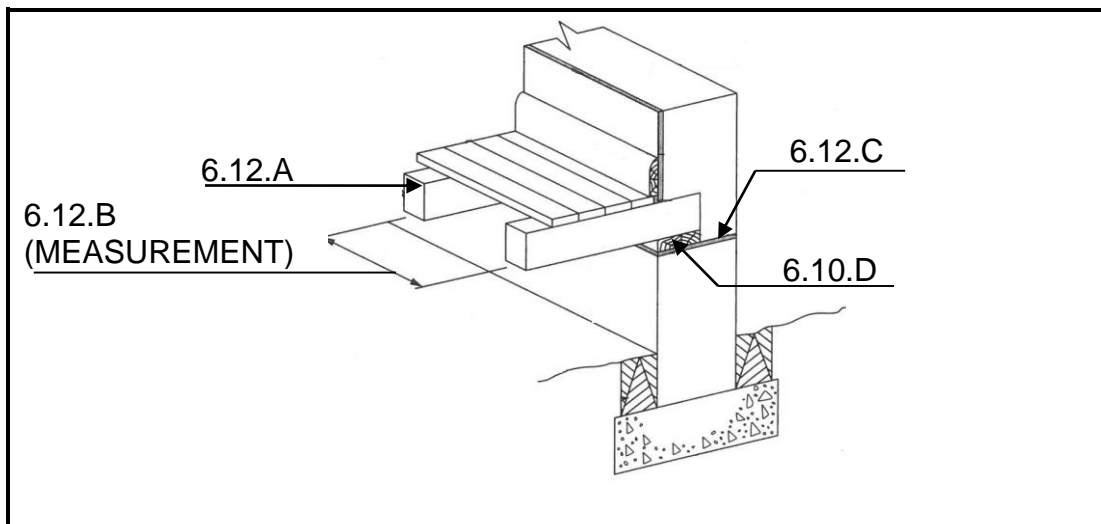

FIGURE 6.12
6.12 Identify the parts and measurements 6.12.A to 6.12.D of the suspended timber floor in FIGURE 6.12. (4)